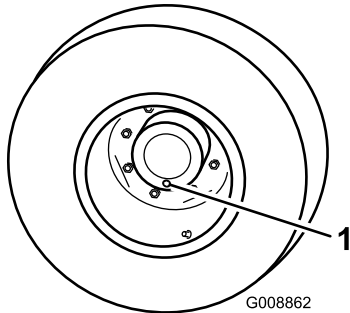

Figure 45
- Position the machine on a level surface and position a wheel so that 1 of the check plugs is at the lowest (6 o'clock) position (Figure 45).